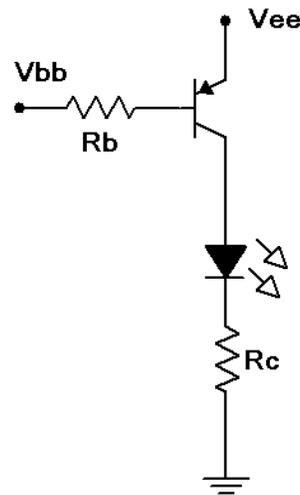

Figure 2
6. Consider the PNP saturating switch of Figure 2 using  $V_{ee} = V_{bb} = 5$  volts,  $R_b = 4.7 \text{ k}\Omega$  and  $R_c = 220 \text{ }\Omega$ . Without a base-emitter differential, the circuit will be in cutoff. Calculate the base and collector currents along with the collector-emitter voltage and record them in the first row of Table 3 (Theory).
7. Build the saturating switch of Figure 2 using  $V_{ee} = V_{bb} = 5$  volts,  $R_b = 4.7 \text{ k}\Omega$  and  $R_c = 220 \text{ }\Omega$ . Measure and record the base and collector currents along with the collector-emitter voltage, and record them in the first row of Table 3 (Experimental). Also compute and record the deviations between theory and experimental results.